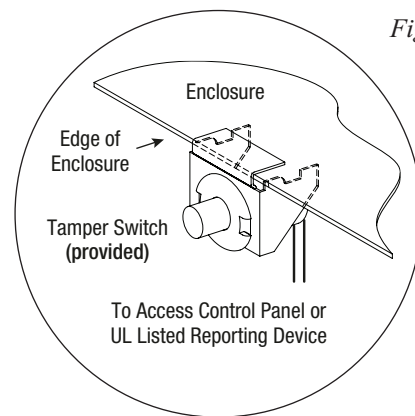

Fig. 1
3. Mount included UL Listed tamper switch(es) (Altronix Model TS112 or equivalent) in desired location(s), opposite hinge. Slide the tamper switch bracket onto the edge of the enclosure approximately 2" from the right side (*Fig. 1, pg. 2*). Connect tamper switch wiring to the Access Control Panel input or the appropriate UL Listed reporting device. To activate alarm signal open the door of the enclosure.